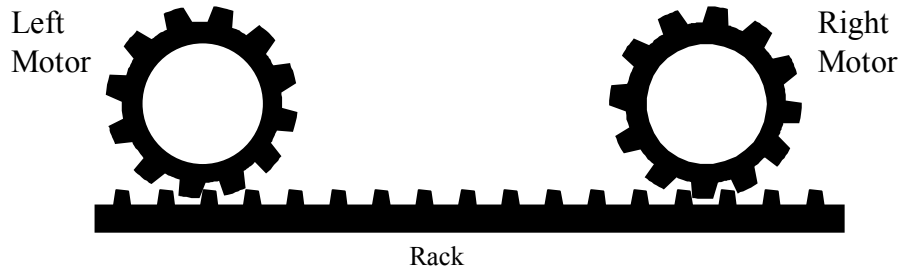
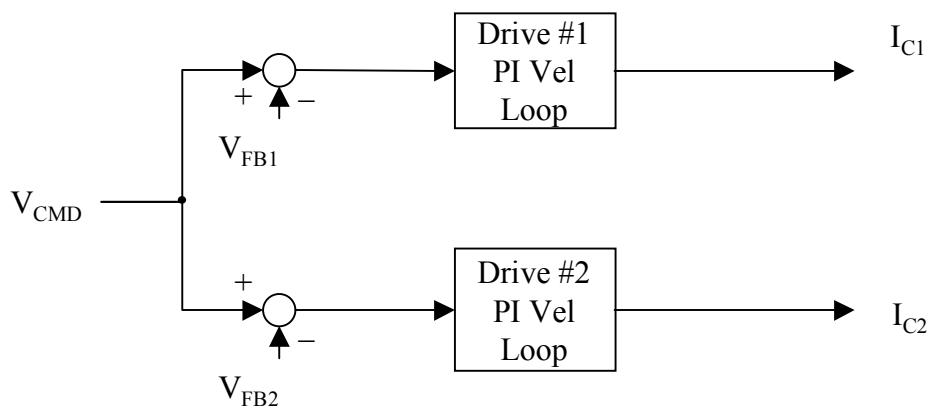
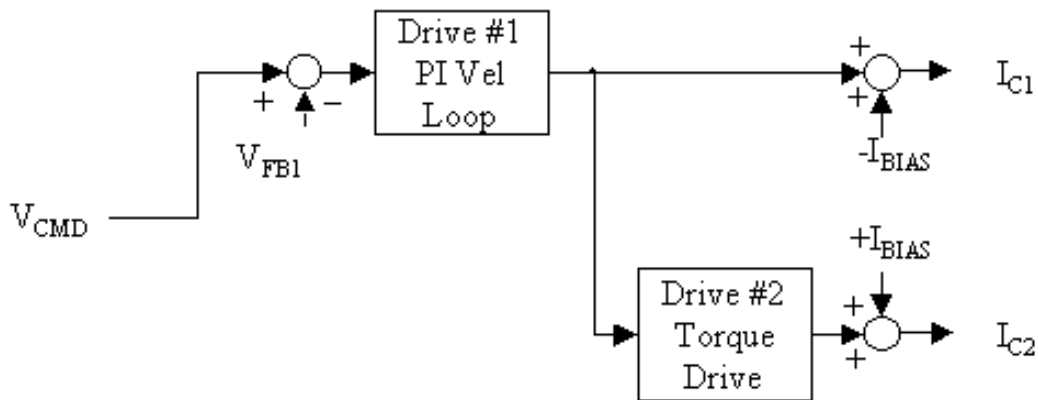
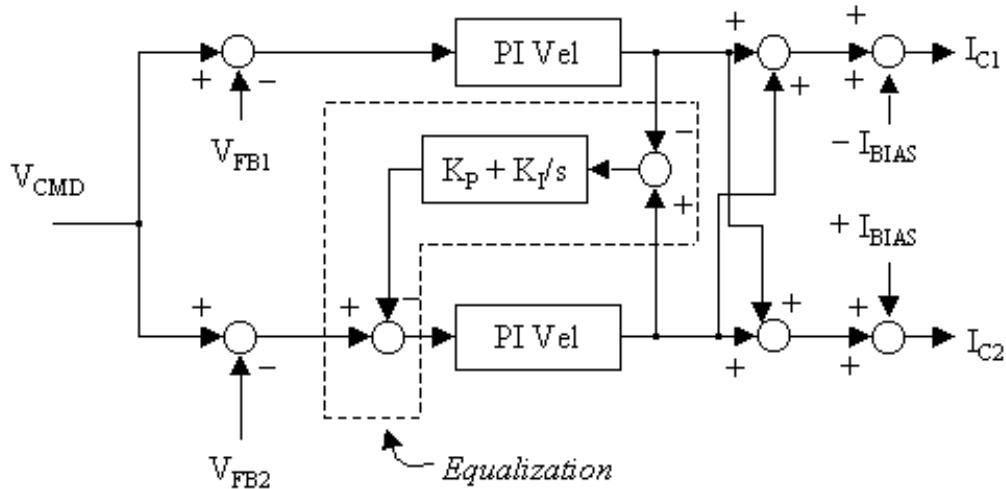

Figure 2: Simplified Rack-Drive System
Figure 3: Traditional Velocity Control
Figure 4: Master-Slave Configuration
Figure 5: Rack-Drive Equalization and Bias
A simplified schematic of the mechanical structure is shown in Figure 2. At steady-state, the left motor applies a bias force to the right and the right motor applies a bias force to the left. This compression takes backlash out of the system at steady state. When there is a large acceleration force, both drives share the load. In this case, one of the two motors must cross over the backlash to provide acceleration force (torque). At the end of the move, the motor that came across the backlash must return to other side of the rack to take the backlash back out. This requires a specialized control structure.
An alternative to using two integrating velocity loops is to configure only one of the loops as fully-integrating. This is achieved with the structure of Figure 3 where one loop is a proportional velocity loop. As an alternative, it could be achieved using a master-slave configuration where the master drive produces a torque command used by both itself and the slave drive. This eliminates the problem of two integrating loops fighting each other. However, it does not remove the backlash.
The problem of disturbance response can be seen in the master-slave system in Figure 4. This system shows the addition of bias current. Bias current produces torque that holds the system in tension or compression during light loads. There is always a torque differential of $2 \times I_{BIAS}$ between the two drives. From Figure 2, notice that at rest, one drive responds to disturbances from one direction and the other responds to disturbances from the other direction. This is evident because the motors are only engaged in one direction, either clockwise (CW) or counter-clockwise (CCW). In Figure 4, should the disturbance go against the fully-integrating drive, it is resisted (as desired). However, should the disturbance come from the other direction, the torque drive does not respond, other than continuing to produce I_{BIAS} . If the disturbance is larger than I_{BIAS} , (as it often is) the rack disengages from the slave motor. Until the rack travels a distance equal to the backlash so that the position of the integrating drive system is disturbed, the output current of both drives remains unchanged. The system does not respond. A similar behavior occurs in Figure 3 where one loop is proportional.
A better alternative for rack-drive systems is to use a process of equalization between two fully-integrating velocity loops (Figure 5). Notice that both velocity loops are fully-integrating as they were in Figure 3. Also, the bias current from Figure 4 is present. Finally, equalization has been added.
The RDP structure ensures that one drive comes across the backlash to help the other during periods of heavy loading. This occurs wherever the sum of the two velocity loops is greater than I_{BIAS} . This is shown in Figure 5. If the sum of the outputs of the two PI velocity controller is greater than I_{BIAS} , I_{C1} changes from negative to positive. When this occurs, Drive 1 reverses direction and begins aiding Drive 2. Similarly, when the sum of the two velocity loops is less than $-I_{BIAS}$, I_{C2} changes sign and Drive 2 aids Drive 1. In both cases, when the load is reduced, the sum of the PI velocity outputs fall below I_{BIAS} , and the system is in tension or compression. I_{BIAS} is a user-configurable variable. It can be set at any level from zero current to the continuous current of the drive. Larger I_{BIAS} has the advantage of increasing the load level up where backlash is eliminated. Unfortunately, larger I_{BIAS} increases power usage and reduces the total peak torque available to the rack.